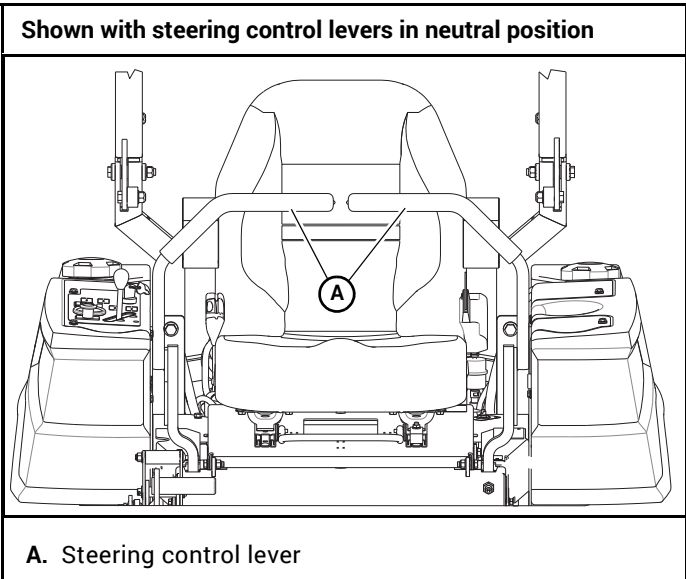

Figure 4-6
2. Place the steering control lever in the neutral position. Figure 4-6
3. Loosen the steering damper's rear ball stud. Figure 4-6